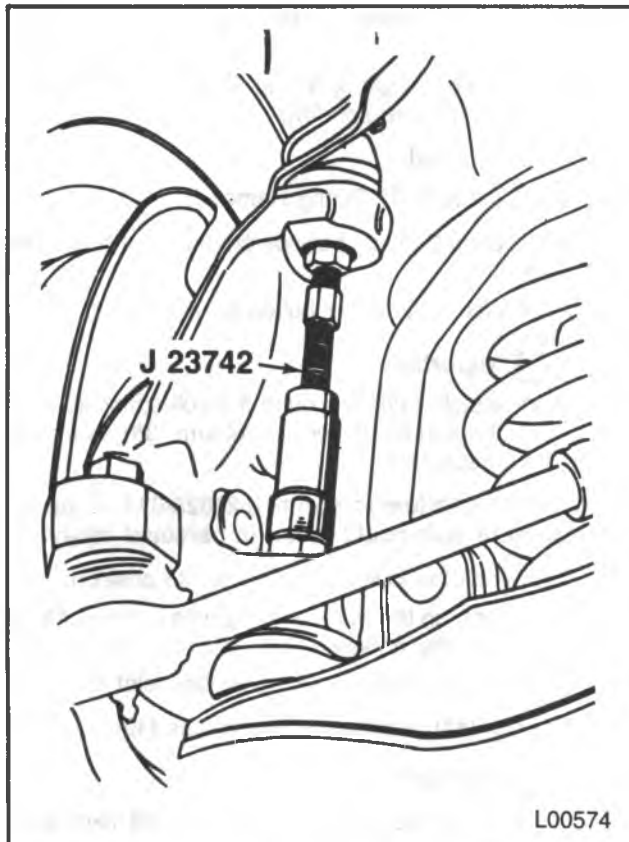

Figure 21 — Disconnecting the Upper Ball Joint
3. Hub/rotor (81).
4. Bolts (83) and washers (84).
5. Gaskets (85).
6. Splash shield (71).
8. Steering knuckle (31) from the upper ball joint (13).
- Position a floor jack under the lower control arm (36) near the spring seat.
- Use J 23742 to break the upper ball joint free of the steering knuckle (figure 21).
- Raise the upper control arm (28) to disengage the upper ball joint from the steering knuckle.